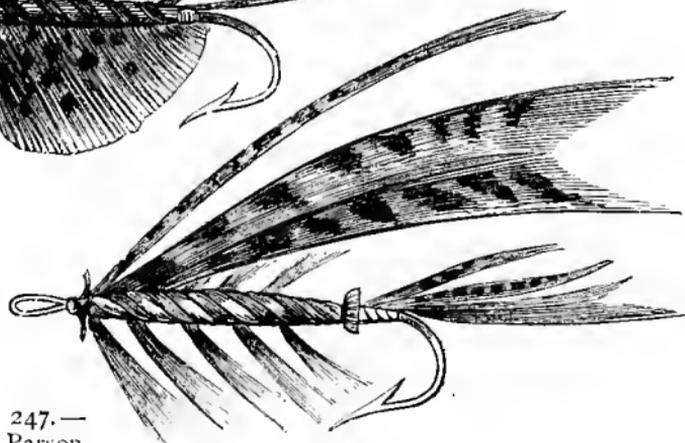

Fig. 247.—
*The Parson* (Fig. 247).—This is a very useful fly, and is thus dressed by Mr. Francis: Tag, silver tinsel and mauve floss; tail, two toppings, a few sprigs of lippel and kingfisher; body, two turns of golden floss silk, then golden wool merging into orange, twist silver orange hackle over wool, red orange hackle over that, and two or three more short toppings tied in at the breast instead of shoulder hackle, using a lippel feather with a cock of the rock on either side and one above, strips of pintail of wood duck on either side, as many toppings as you can pile on, seven or eight more, if you like.